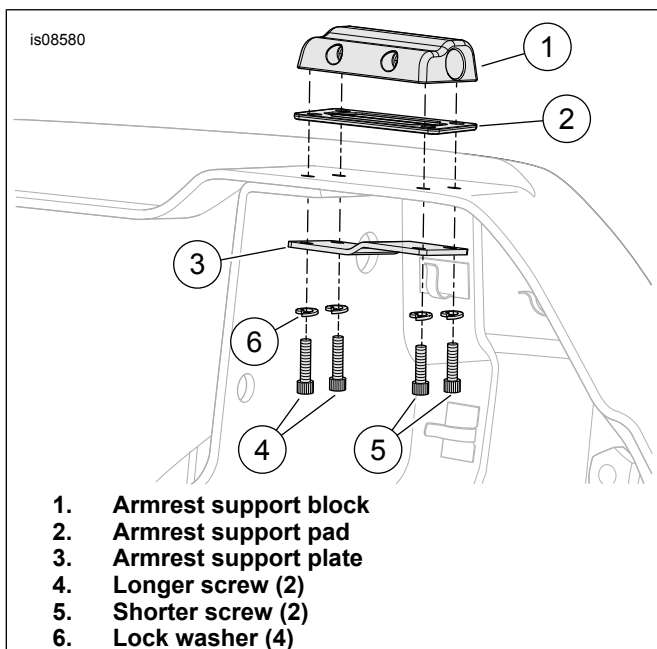

Figure 2. Armrest Support Block Installation
5. See Figure 2. Place the armrest support plate (3) on the underside of the body in the orientation shown, aligning the holes.
6. Using the longer screws (4) at the rear, fasten the armrest support block (1), pad (2) and plate (3) to the body. Tighten.